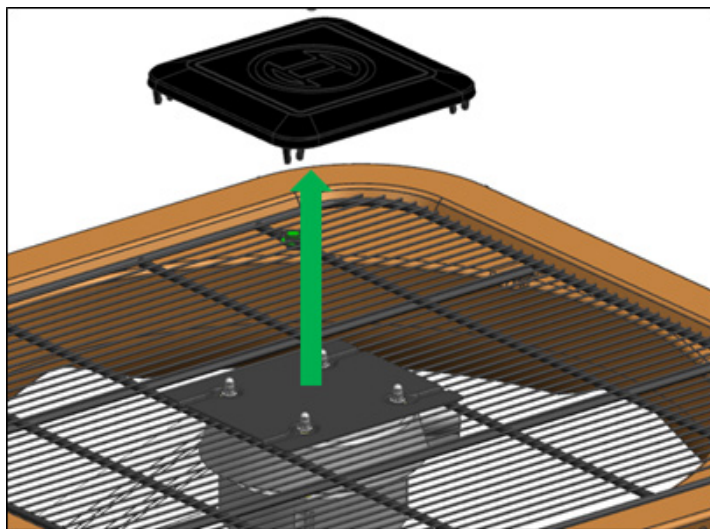

Fig.1
2. Gently pry off the logo plastic center cap (see Fig.1);